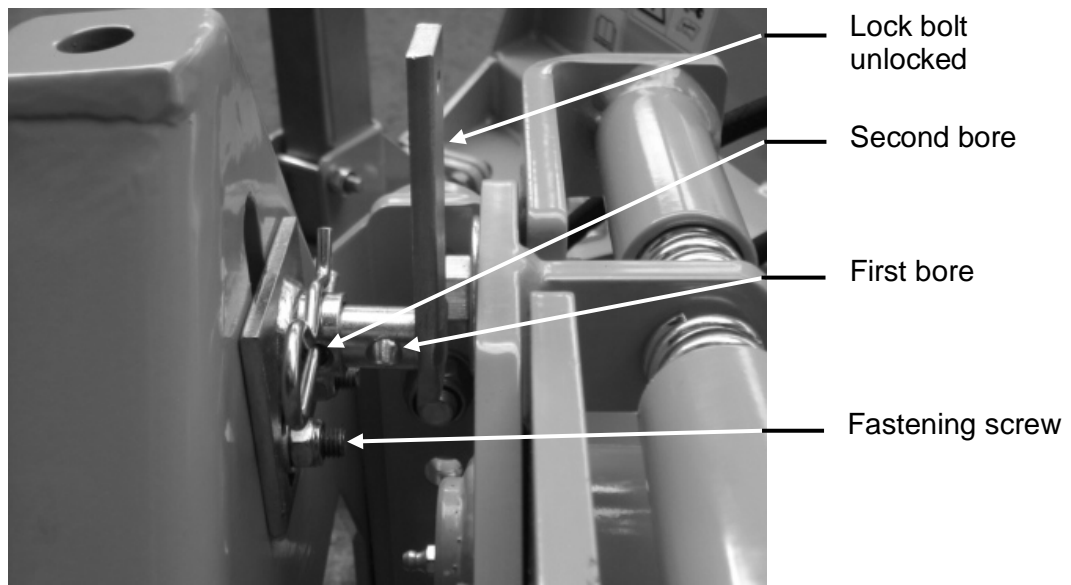

Fig. 2: Lock bolt
3. Secure the lock bolt with the spring cotter pin as shown in Fig. 2